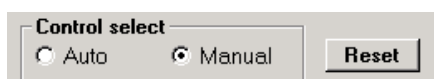
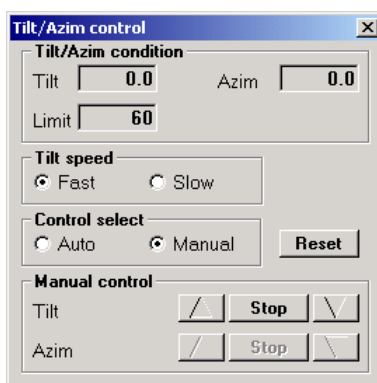

Fig. 3-216 Control select
Fig. 3-217 Tilt/Azim control Window (with Manual selected)
- (a) In the Control select field shown in Fig. 3-216, turn on the radio button of Manual. The Tilt/Azim control window will then be displayed as shown in Fig. 3-217.